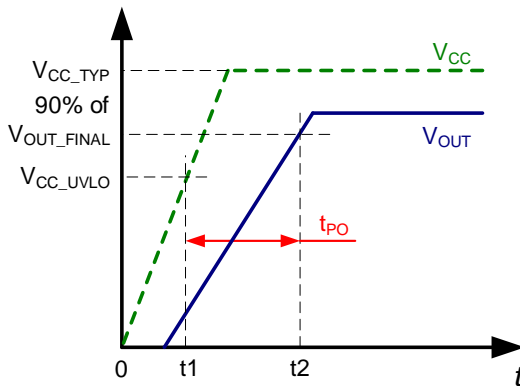

Figure 5: Power-On Time ( $t_{PO}$ )
2.  $t_2$ :  $V_{OUT}$  settles 90% of its final value under an applied primary current (see Figure 5).